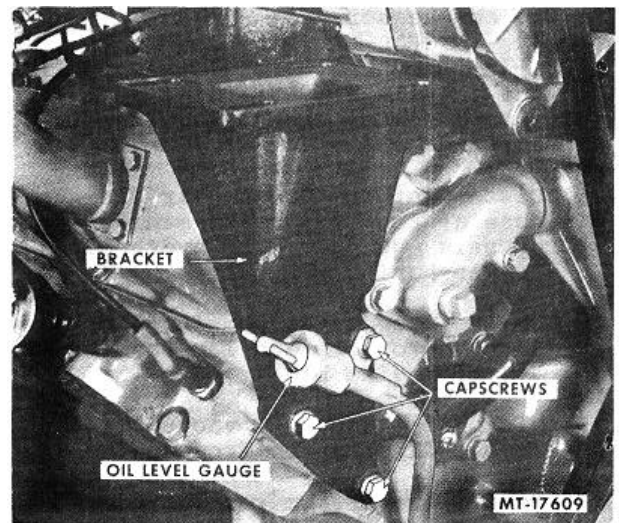

Fig. 9 Freon Compressor Mounting Bracket Removal
4. Remove freon compressor mounting bracket by removing three capscrews and lockwashers (Fig. 9). Also remove oil level gauge assembly at this time.